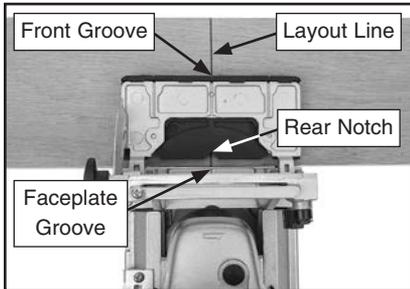

Figure 13. Biscuit joiner aligned with workpiece.
1. Place fence on workpiece so front groove, rear notch, and faceplate groove line up with layout line, as shown in **Figure 13**. Make sure faceplate contacts edge of workpiece.